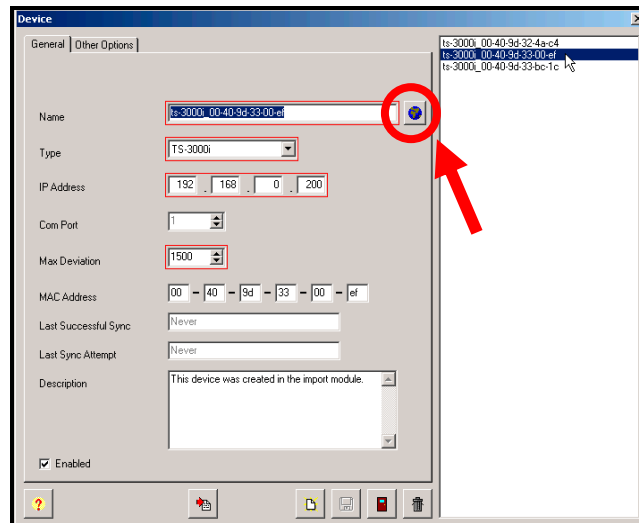

Figure 6-9. Imported TS-3000i Clocks.
click on the Edit  button, and the device screen for that device will appear. All imported devices (TS-3000i clocks) will appear in a list on the right-hand side (see *Figure 6-9*). When you click on the device in the list
the **Launch web browser**  button will appear to the right of the device (clock) name (see *Figure 6-9*).
Step 2. Select a Group from the expanded list and click on the **New**  button. The Device screen will appear (see *Figure 6-9*).